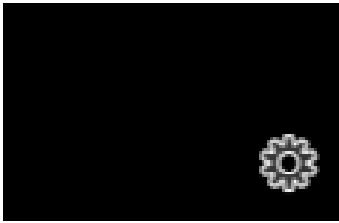

FIGURE 8
4. Click the gear to open the corresponding web page, popping up a request for you to enter login credentials (Figure 8).